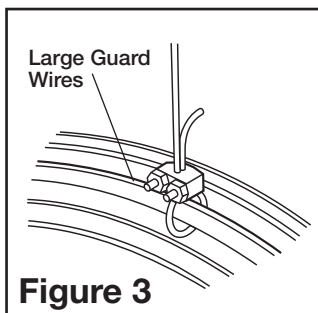

Figure 3
1. Loop one end of Cable around the Large Diameter Wires of both the Front and Rear Circulator Guard (**Figure 3**).
2. Attach a Cable Clamp with the "U" on the tail side of the loop leaving a tail approximately 1 to 2 inches. Tighten Clamp Nuts. Make sure no part of the Cable interferes with the Blade (**Figure 3**).